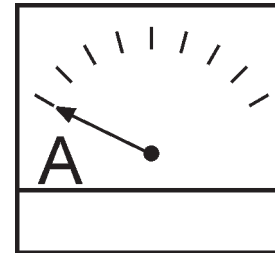

Figure 28. Ammeter (No Load)
8. The ammeter (Figure 28) will indicate **zero amps** with no load applied. When a load is applied, the ammeter will indicate the amount of current that the load is drawing from the generator.